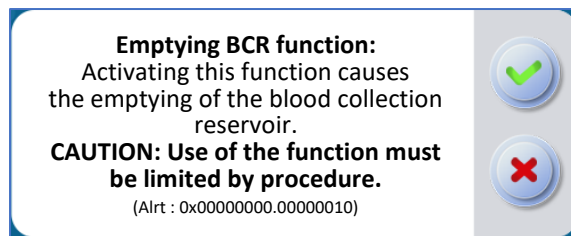

Figure 117: Last Treatment launch
- The 'Emptying BCR' function makes it possible to empty the BCR (See Figure 117).